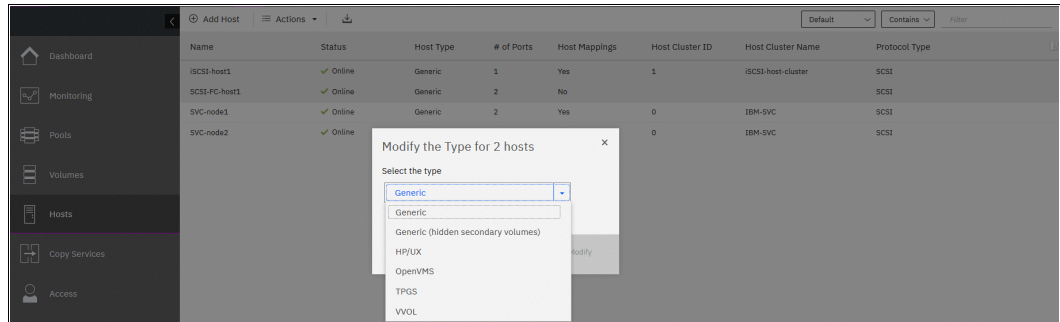

Figure 7-44 Changing the host type
2. A Modify Type dialog opens, as shown in Figure 7-44.